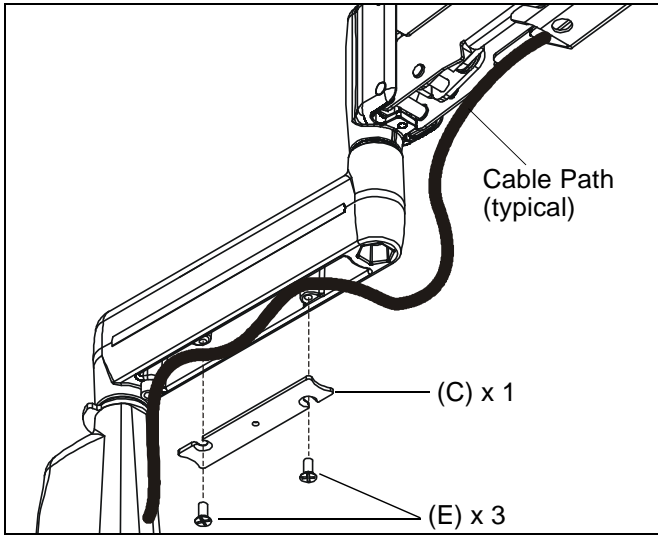

Figure 11:
5. Carefully insert cables in cavity located in lower portion of mount arm (See Figure 11).
6. Using Phillips screwdriver, install cover (10) with two screws (20). (See Figure 11)